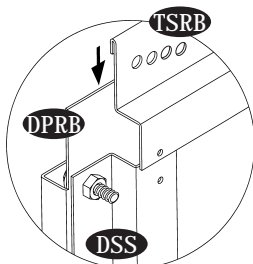

Fig.1
4. Assemble the door panel strip (TSRB) with door panel. Make sure the door panel top edge to be inserted into the (TSRB). See fig.1.